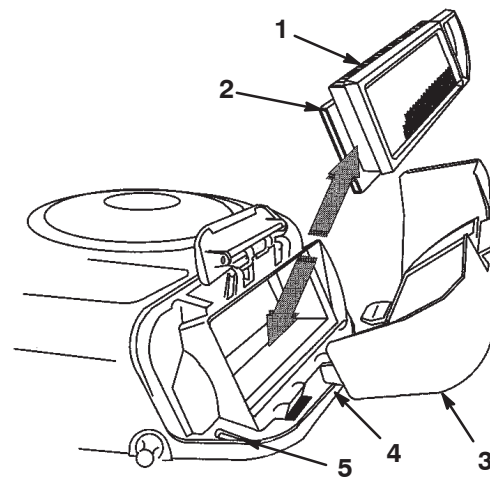

Figure 18
7. Carefully slide the paper element and foam element from the blower housing (Fig. 18).
2. Align the tabs on the air cleaner cover with the slots of the blower housing (Fig. 18). Hook the handle onto the cover and press down on the handle to lock the cover in place.